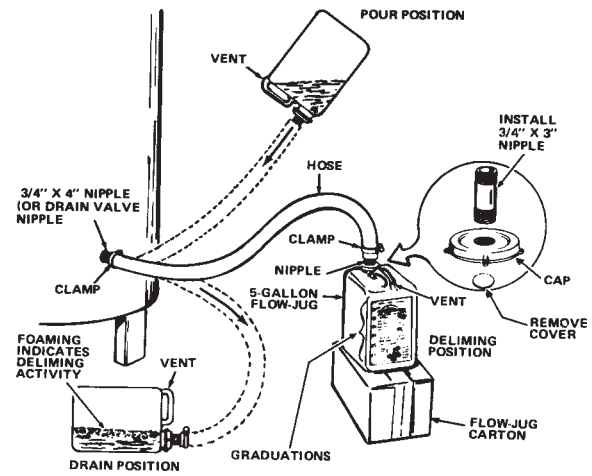

FIGURE 27.
6. Lift container to the "Pour" Position, see Figure 27, being careful to keep the vent in the handle above the liquid level and pour the UN•LIME into the heater.
8. Let UN•LIME remain in the heater for 5 minutes and then lower the container to the "Drain" Position, see Figure 27.